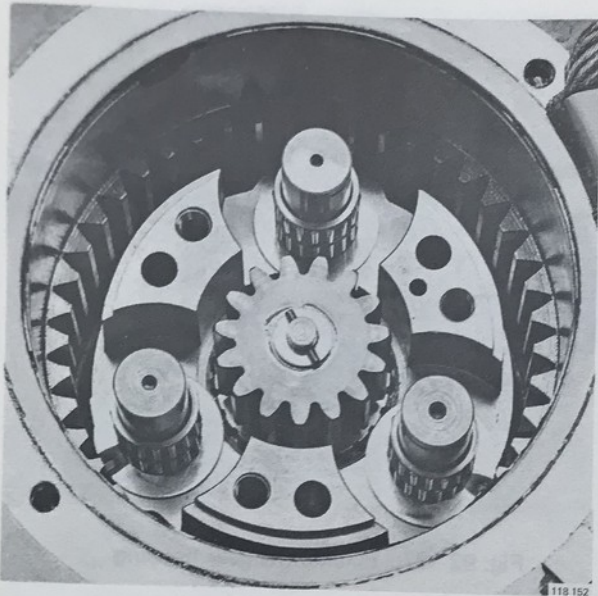

Fig. 92-89. Fitting the needle bearings
31. Fit the needle bearings in position, see Fig. 92-89.